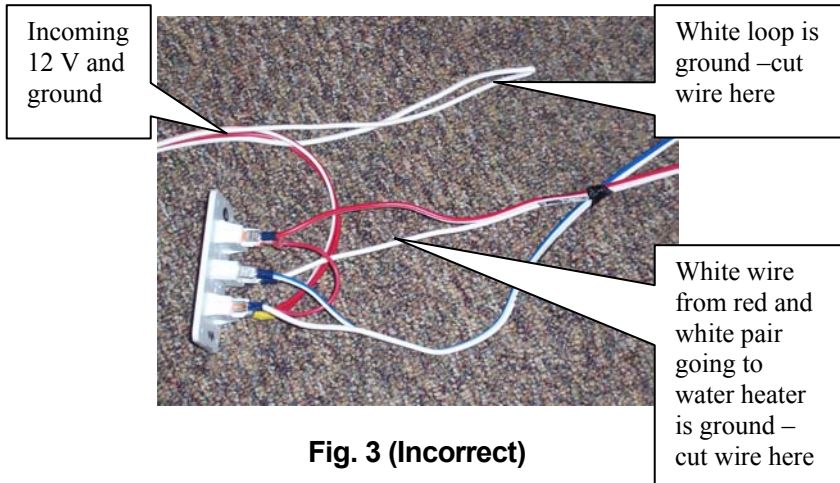

Fig. 3 (Incorrect)
- Step 5** If wired like Fig. 3, find the white wire loop in the wall behind the switch panel and cut the loop (Fig. 3) to make two separate wires.
- Step 6** Cut the white wire from the white and blue pair of wires 8" from the switch. (Fig. 3)